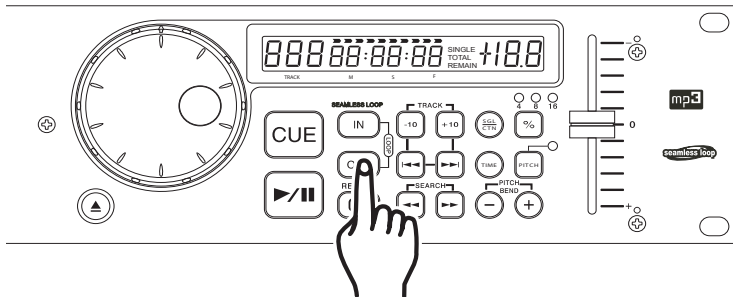

Figure 19
3) Press the OUT BUTTON (15) to set the ending point for your SEAMLESS LOOP (Figure 19). The OUT and IN BUTTON'S will stay lit indicating a SEAMLESS LOOP is playing. Press the OUT BUTTON again to stop the Loop.
4) Press the RELOOP BUTTON (14) to reactivate the SEAMLESS LOOP. Press the OUT BUTTON (15) to deactivate the loop.